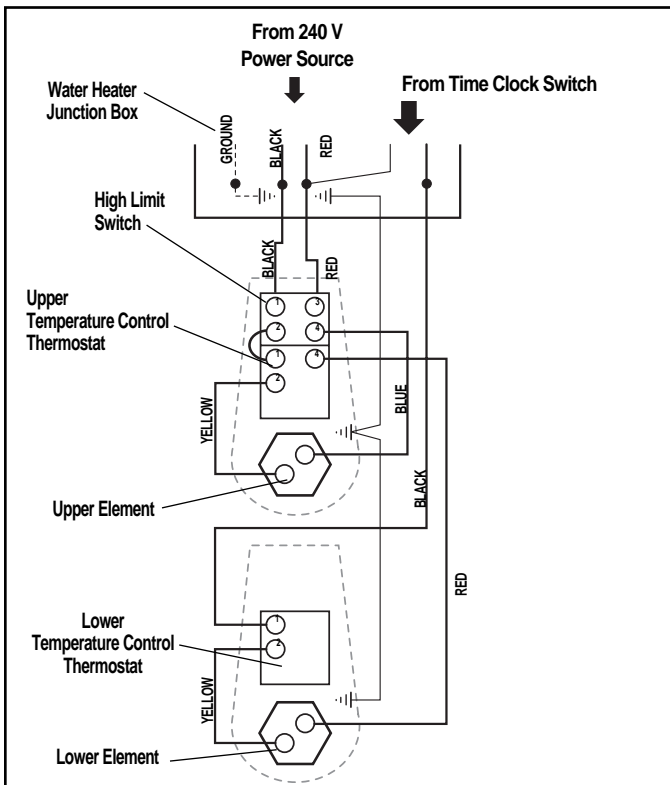

Figure 7 — Complete Wiring Schematic Diagram — Non-Simultaneous Operation on separate Time Switch.
**CONNECTING THE WATER HEATER TO A TIME SWITCH OR OFF-PEAK METER** — In some installations it may be desired or required by local utility regulations to connect the water heater to a Time Switch or Off-Peak Meter. Refer to Figure 7 or 8 below for complete wiring schematic diagram for standard non-simultaneous operation units installed in conjunction with these energy management devices.